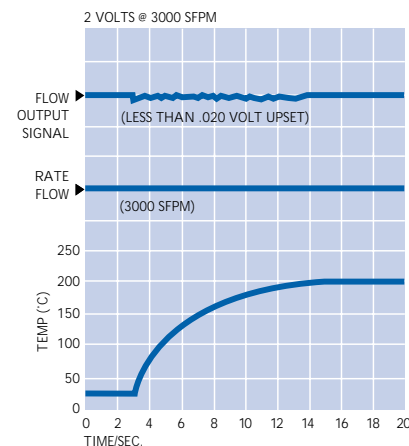

Figure 5—Sensor Temperature Response.
Figure 5—Shows a typical response to a step change in temperature for a Kurz Fast Dual (FD) MetalClad™ sensor. It is exceptional and allows use of the sensor for combustion air flow measurements in boilers that mix hot and cold air for temperature control in coal pulverizers, for example.